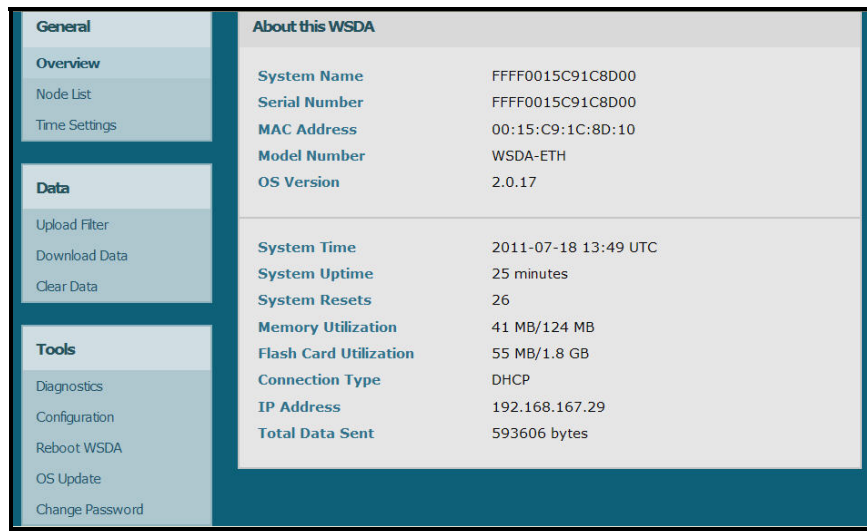

Figure 3. WSDA[®] Control Panel window
- The WSDA[®] Control Panel will appear as shown in Figure 3.